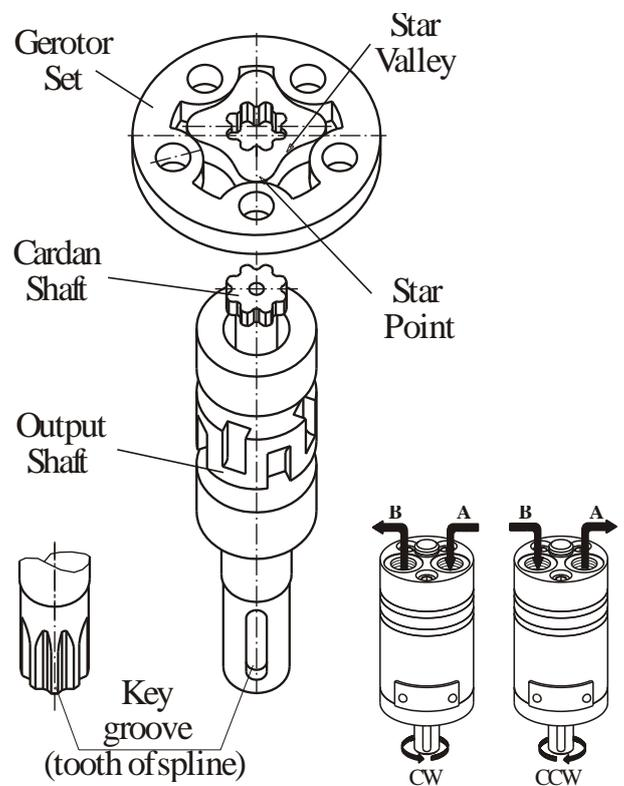

Fig. 8
13. Place gerotor set on distributor plate aligning any star point with the shaft key groove (tooth of external spline) (see Fig.8).